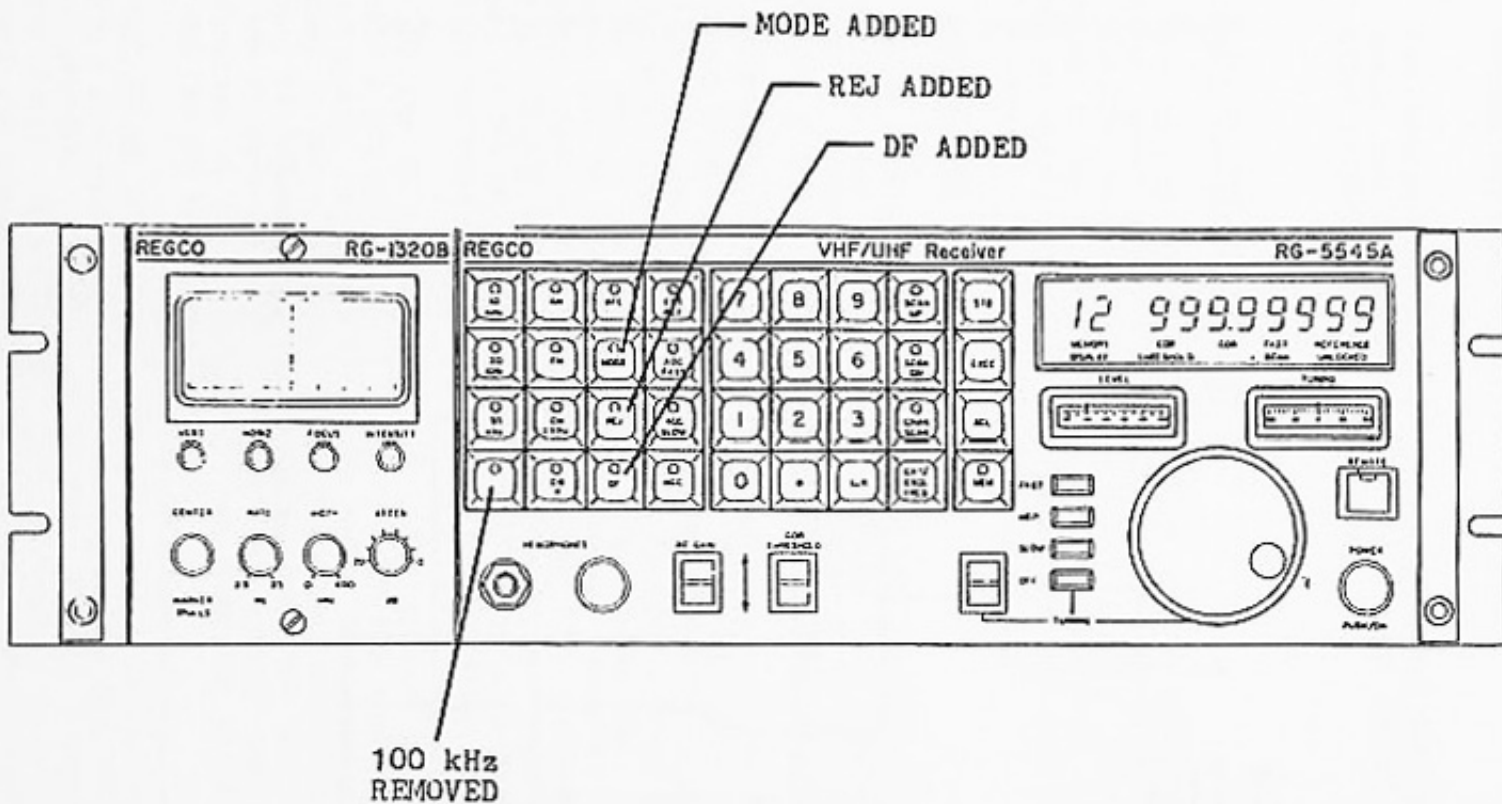

Figure 1. DF Version Front Panel Differences
4. The DF version of the Receiver is both functionally and physically identical except for four front panel pushbuttons (see Figure 1), the removal of the 100 kHz IF filter amplifier, the function of an AGC attenuation circuit already contained in the standard version and EPROM programming changes.
5. **FRONT PANEL PUSHBUTTONS.** Four pushbuttons on the DF version front panel are different from the standard version. Figure 1 shows the front panel of the DF version and the location of the four changed pushbuttons. Three of the pushbuttons, blank and unused on the standard version are labeled; MODE, REJ and DF for the DF version. These three pushbuttons provide for communication between the DF receiver and an external (external to the receiver) system computer used in the direction finding (DF) system. The fourth pushbutton, labeled 100 kHz in the standard version, is no longer labeled and is blank and unused in the DF version. This blank unused pushbutton is the result of the DF version not being equipped with a 100 kHz IF filter amplifier (see paragraph 6).